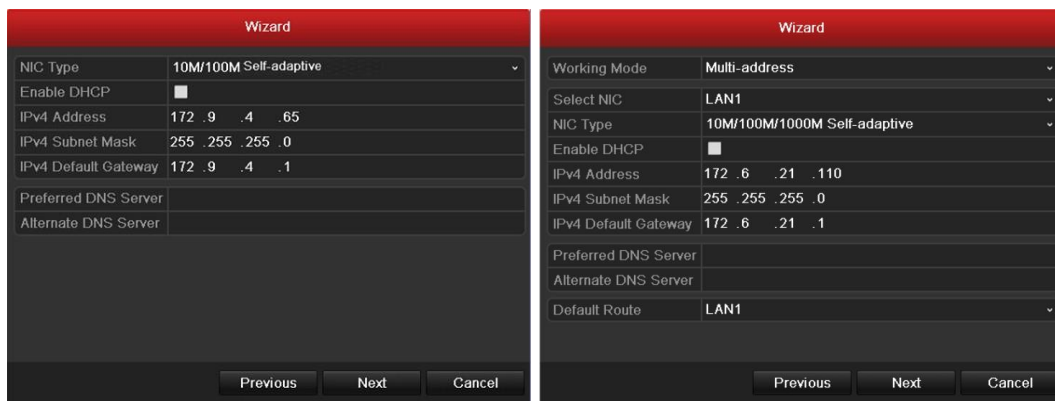

Figure 2.5 Network Configuration
- Click **Next** button which takes you back to the **Network Setup Wizard** window, as shown in Figure 2.5. Set the network parameters, including the NIC type, IPv4 address, IPv4 subnet mask, default gateway, etc. You can enable the DHCP to automatically obtain an IP address and other network settings from that server.